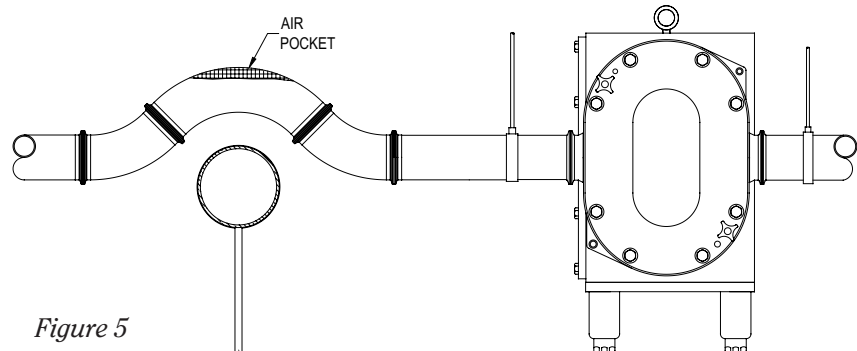

Figure 5
- Avoid the formation of air pockets in the piping (*Figure 5*).